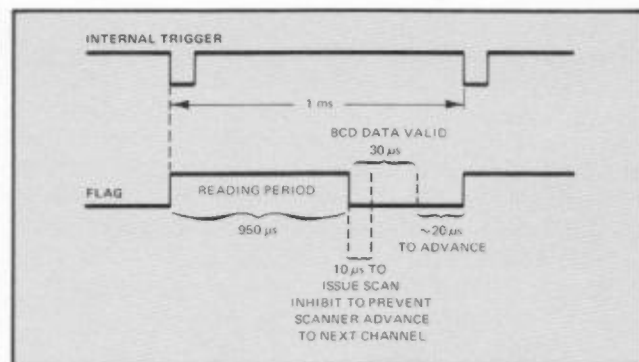

FIGURE 9
Remote control of 3485A using internal triggering and a preselected CHANNEL DELAY on the front panel. The SINGLE SCAN mode is selected along with the LAST CHANNEL (lines not shown). PROGRAM INITIATE starts the scan sequence. READY indicates completion of the sequence. This scan sequence may be repeated without reprogramming by issuing PROGRAM INITIATE. SCAN INHIBIT is necessary to keep Scanner from automatically advancing while system is taking data in. Refer to Figure 9 for detail on the timing for SCAN INHIBIT.
- Special case: In the **SINGLE SCAN** or **CONTINUOUS SCAN** modes and if **CHANNEL DELAY** is put in the "NONE" position, **SCAN INHIBIT** may be used for the desired channel spacing. When **SCAN INHIBIT** is released (ungrounded), the Scanner will immediately advance to the next channel and take a reading in 950 μ s. This does not allow any dwell time for the input signal to settle, however. In this mode, **SCAN INHIBIT** must be issued within 10 μ s after the **FLAG** goes low as shown in Figure 9. The BCD reading is valid for 30 μ s.